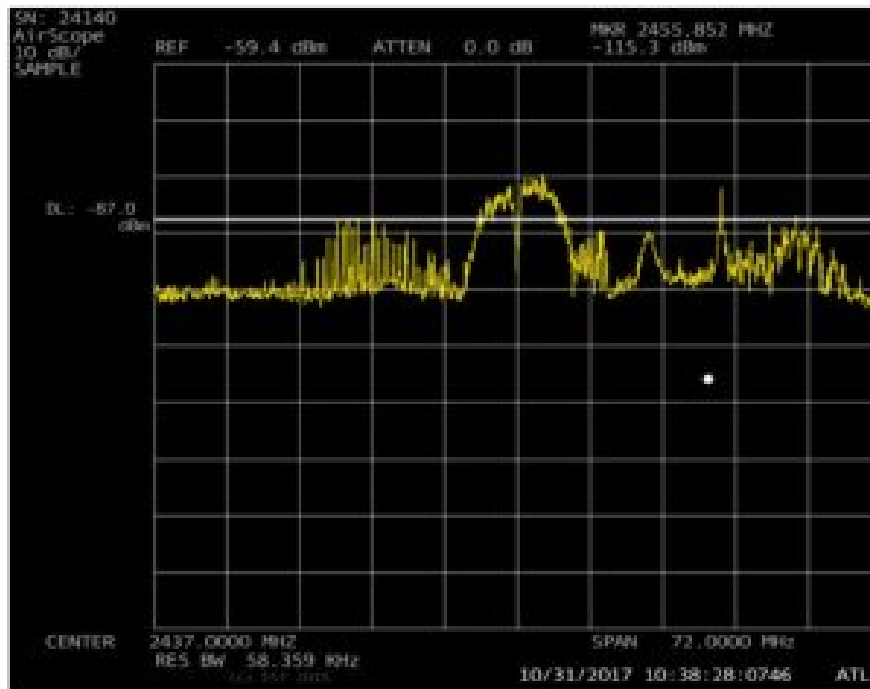

Figure 16: Peak Hold
Figure 16 shows the 2.4 GHz spectrum plot (used in all previous graphics) with the peak hold set box checked. You can see activity much clearer on the center frequency and intermittent activity on the lower frequencies. Center Frequency – This is the center frequency displayed on the analyzer. This value is either set by selecting an ESTeem product range or entering the frequency manually.
Channel Marker Setup – A powerful feature of the AirScope is the frequency channel markers and how they help in identifying interference or selecting an open frequency channel. In Figure 17 the channel markers were enabled on the peak hold scan used in Figure 16. This was completed by selecting 20 MHz Channel Bandwidth (BW) used in the 2.4 GHz band and then selecting the channels that overlap carriers. Looking at Figure 16, there is frequency activity on channels 3, 6, and 11, and the signal strength is identified. Using this information and the Density charts (shown later in this manual) will greatly help select the best channel for operation.